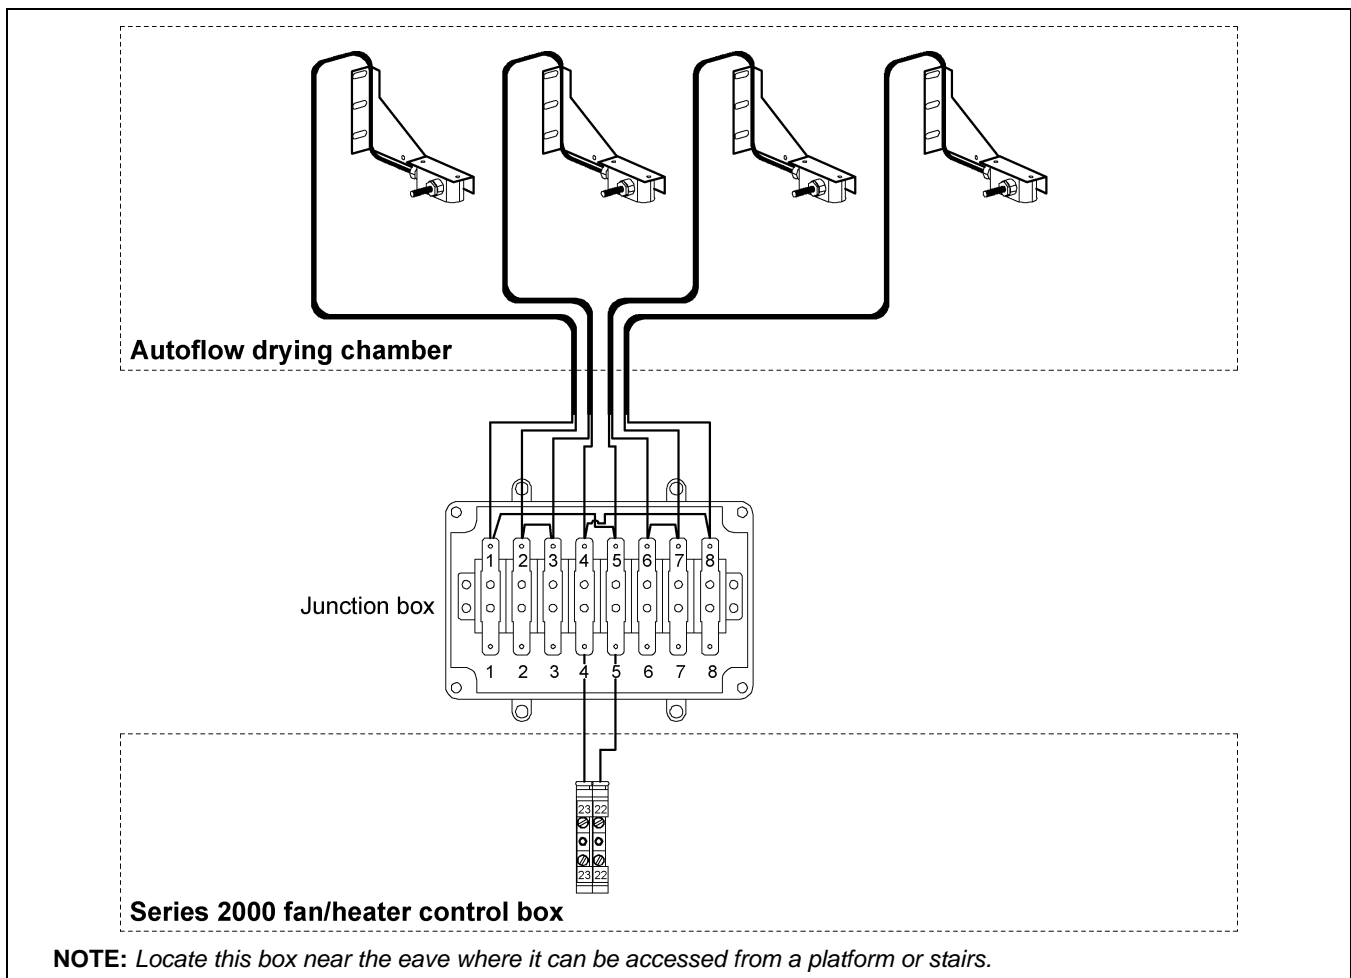

Figure 3I Illustration of the grain temperature sensor interconnection.
7. Wire the four (4) temperature sensors as shown in Figure 3I and on Page 24.